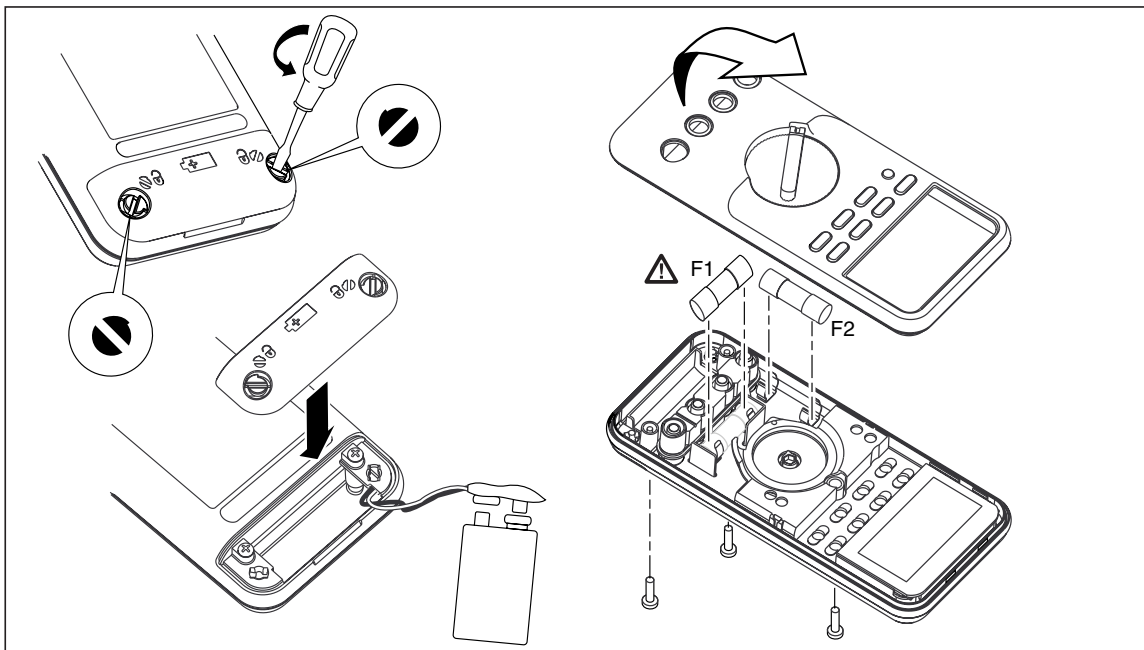

Figure 2. Opening the Meter, Battery and Fuse Replacement
To open the Meter case, refer to Figure 2 and do the following:
6. Gently unsnap the case top at the display end, see Figure 2.
5. Properly seat the case gasket and snap the case halves together above the LCD end. See Figure 2.
Replace the battery as follows, refer to Figure 2: